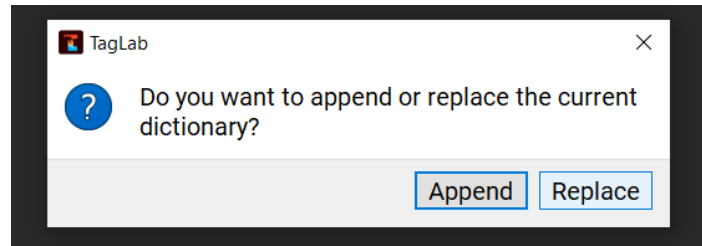

Figure 141. Example of prompt when replacing Labels Dictionary.
- A second window will appear, click `Replace` (Figure 141) and then `Ok` under the Labels Dictionary Editor window (Figure 142A). The labels will now appear in the top-right corner of the TagLab window under the Labels pane (as shown by the pink arrow in Figure 142B).